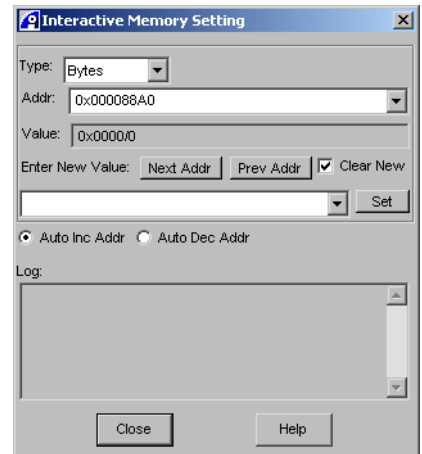

Figure 8-2 Interactive Memory Setting dialog box
11. Right-click and select **Set Memory Interactive...** from the context menu to display the Interactive Memory Setting dialog box, shown in Figure 8-2 on page 8-11.